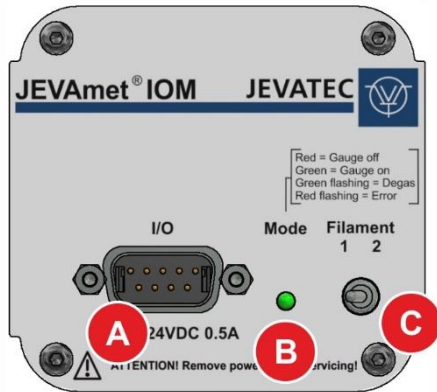

Figure 3 – Rear of the Instrument
Figure 3, page 14 is showing the rear of the JEVAmet® IOM. The pin assignment of the connector as well as the operating and display elements are described in the following chapters.
The LED “Mode” (🔌📖 Figure 3, B, page 14) shows the operation modes and error conditions of the instrument.
- Select the active filament using the switch on rear of the instrument (🔌📖 Figure 3, C, page 14).